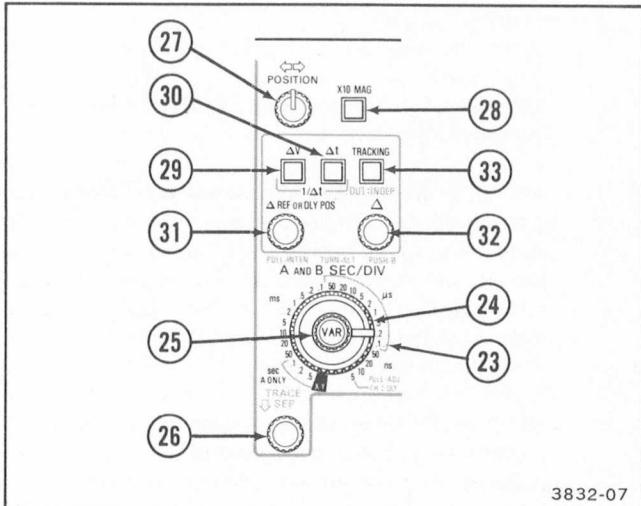

Figure 3-4. Horizontal and delta measurement controls.
Refer to Figure 3-4 for items 23 through 33.
(23) A SEC/DIV Switch—Selects 25 calibrated A Sweep speeds from 0.5 s per division to 5 ns per division, or delay ranges from 5 s to 100 ns, in a 1-2-5 sequence. Extreme counterclockwise switch rotation selects the X-Y display mode. In X-Y, the signal applied to the CH 1 OR X input connector drives the horizontal deflection system.
(24) B SEC/DIV Switch—Selects 22 calibrated B Sweep speeds from 50 ms per division to 5 ns per division in a 1-2-5 sequence. This switch also controls Horizontal Display Mode switching, as explained in the following descriptions.